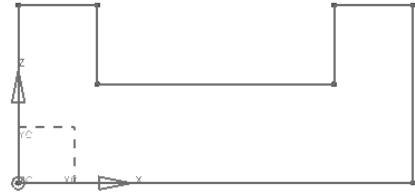

Figure 2-55 Sketch after drawing the lines
15. Press the ESC key twice to exit the **Profile** tool. The sketch after drawing the lines is shown in Figure 2-55.